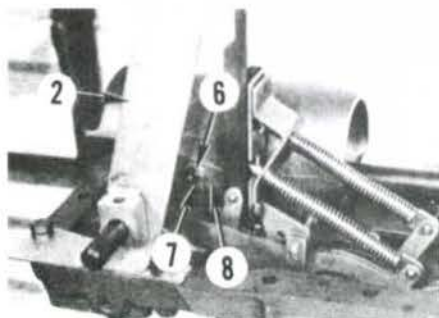

Fig. 223—Refer to text for changing the position of pivot assembly.
If adjustment is incorrect, loosen pivot bracket nut (7—Fig. 223) just enough to allow pivot bracket to be moved. While applying 1.36 Kg (3 pound) pull to vertical lever, move pivot assembly with a screwdriver as shown in Fig. 224 until vertical lever lightly contacts bushing (B). Tighten nut to secure pivot bracket. Recheck adjustment after nut is tightened.